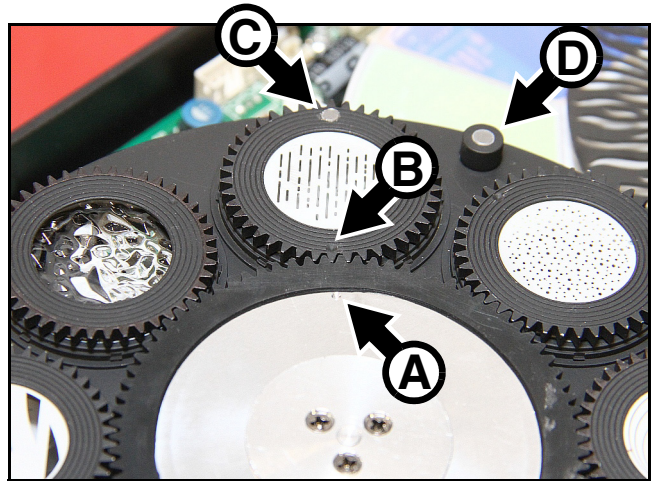

Figure 15: Goboholder orientation marks
- See Figure 15. Note the position of the reference marks in the gobo drive wheel **A** and goboholder **B**. Note also the position of the goboholder positioning magnet **C** and gobo wheel positioning magnet **D**. Each time you remove a goboholder from the wheel, turn the drive wheel (twice if necessary) until the marks exactly line up.
3. To remove a gobo from Gobo Wheel 3, see Figure 18. If you want to minimize the need to calibrate the gobo's position in the control menus, rotate the gobo until you line up reference points (such as the markings in the gobo wheel and on the goboholder shown at **A** and **B** in Figure 15 on page 24). Pull the top of the gobo away from the gobo wheel until it clears the circular hole in the wheel, then lift the gobo out of the gobo wheel.